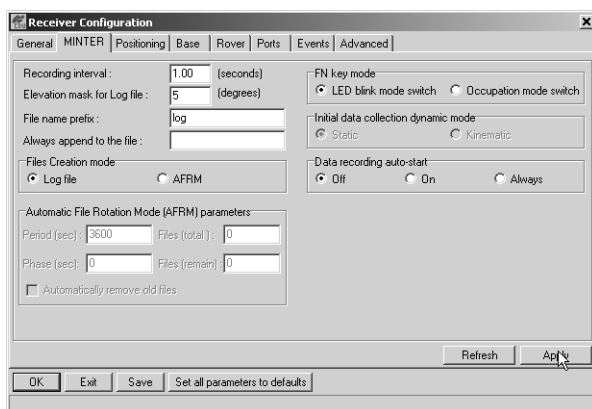

Figure 2-22. Receiver Configuration – MINTER Tab
4. Click the **MINTER** tab, set the following parameters and click **Apply** (Figure 2-22 on page 2-23). See the following pages for descriptions of these parameters.